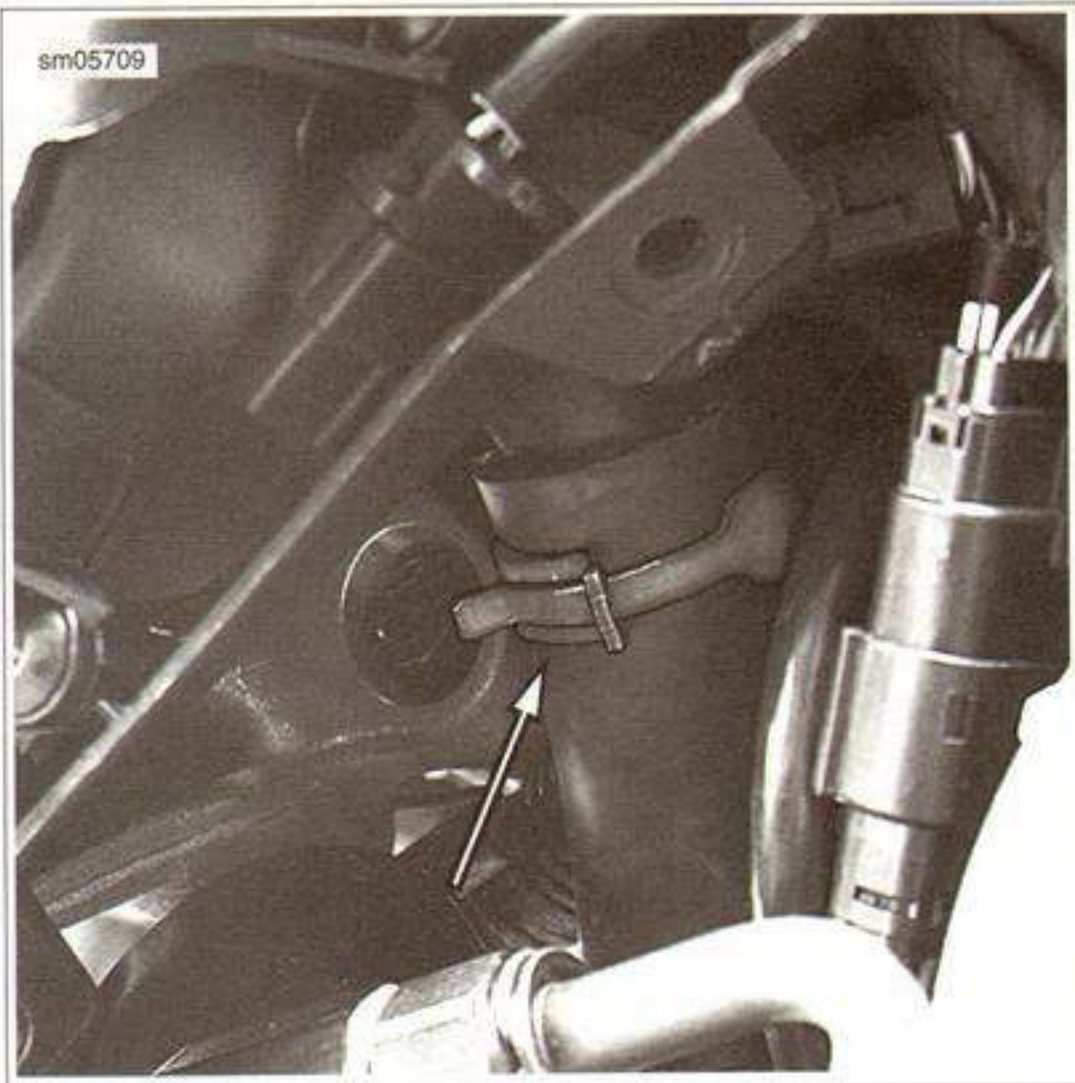

Figure 5-10. Radiator Hose Clamp
3. See Figure 5-10. Squeeze the clamp to remove the left radiator hose.